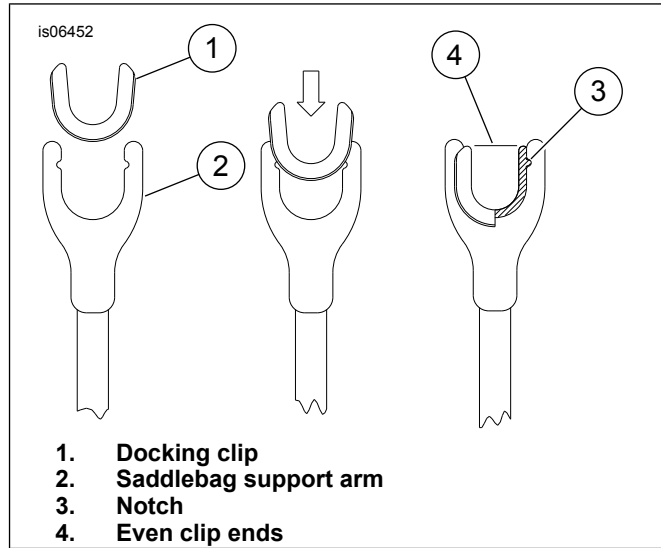

Figure 2. Docking Clip Installation
2. See Figure 2 Install the U-shaped docking clips (1) to the slot end of the saddlebag support arms (2). Clips must be fully inserted in the support arm slot to fit over the docking clevis.
3. Make sure that docking clip protrusions are fully seated in the support arm notch (3) and both ends of the docking clip are roughly even with the support arm fingers (4). Multiple attempts to position the clips may be needed. **IF** the clip is close but not fully seated, pliers may be used, protecting the clip and bracket surfaces, to force the notches to engage.